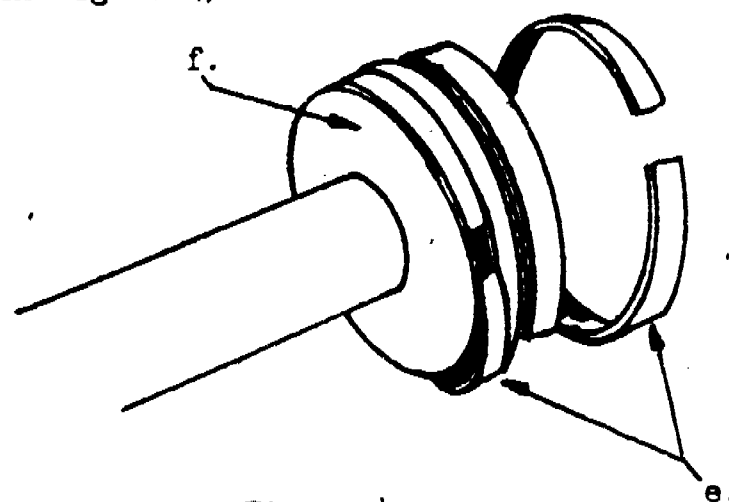

Figure 4
STEP 9. Remove piston rings (Item e in Figure 4) from the piston (Item f in Figure 4).